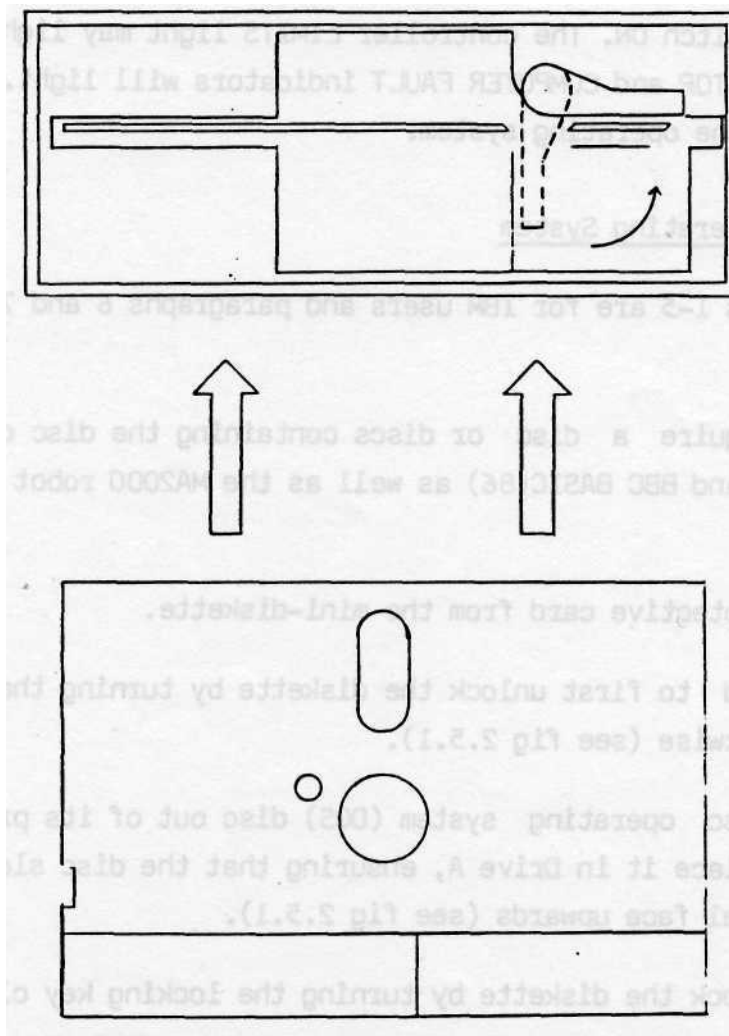

FIG 2.5.1
You may need to first unlock the diskette by turning the locking key anti-clockwise (see fig 2.5.1).
3. Take the disc operating system (DOS) disc out of its protective cover and place it in Drive A, ensuring that the disc slot enters first and label face upwards (see fig 2.5.1).